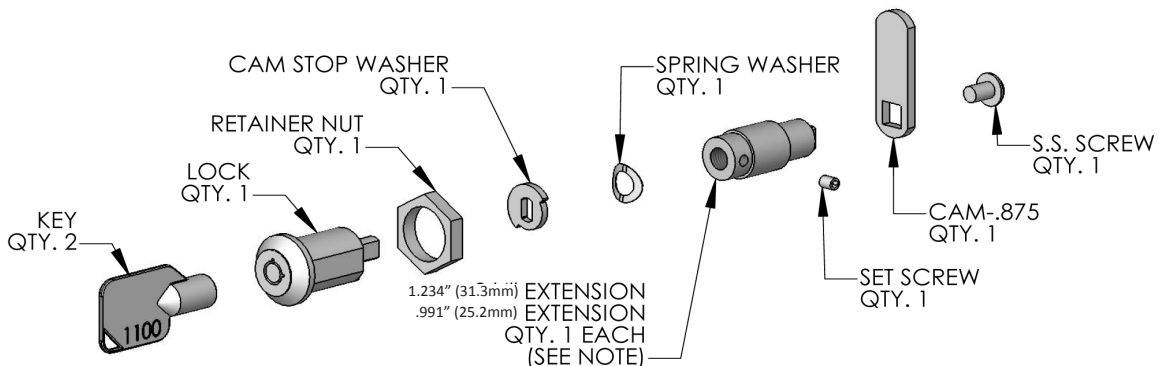

Figure 10
Two (2) lock extensions are supplied with the lock. Use the longer extension for a 3/4" thick overlay panel and the shorter one for a 5/8" thick panel. Assemble the lock extension, cam stop washer, spring washer, and set screw to the lock as shown in Figure 10 and 11.